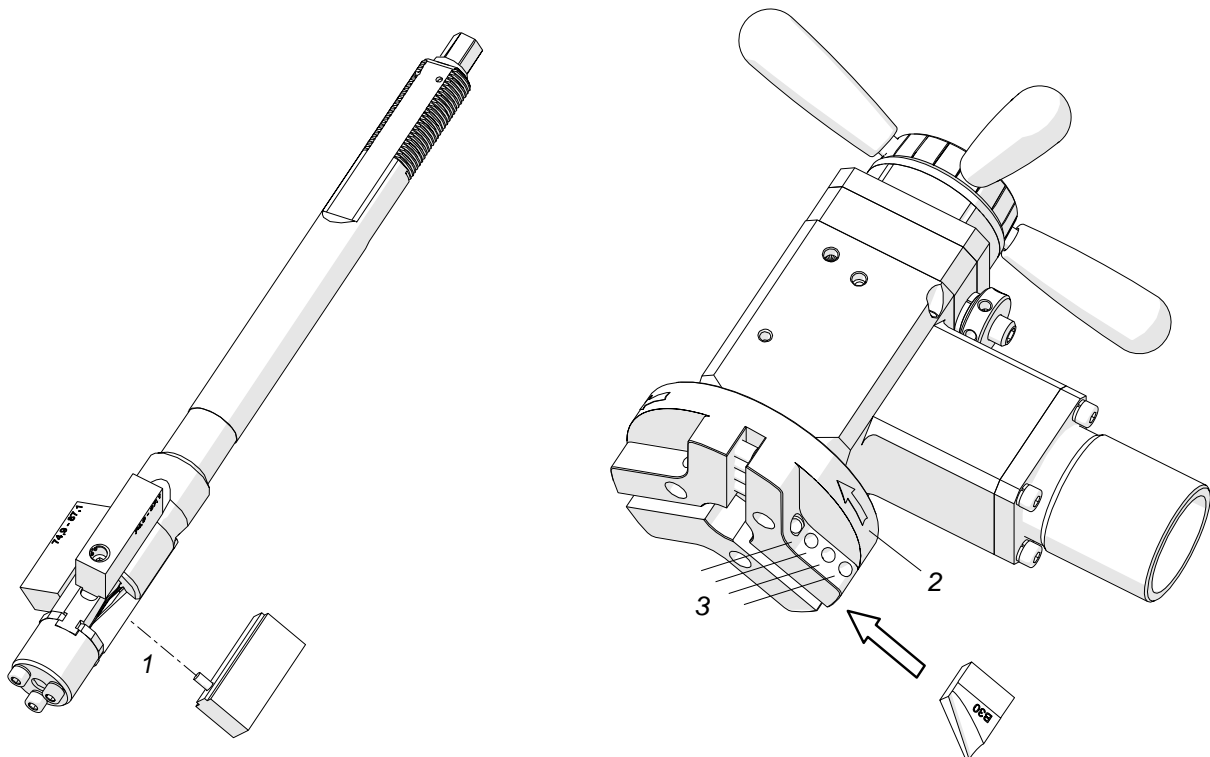

Fig. 2. Installing the jaw blocks and tool bits
Use the 3 mm hex wrench to fix the jaw blocks to the expanding mandrel (1, Fig. 2). Then, select up to three tool bits suitable to planned use, and place them in the sockets, with blades directed according to the rotation direction 2. Next, use the 4 mm hex wrench and two of the screws (3) to tighten each tool bit. The whole pressing surface of the screws must be in full contact with the tool bits.